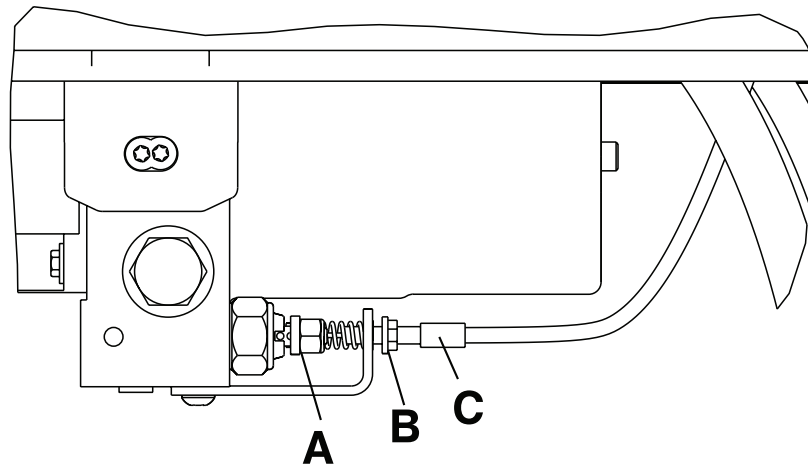

Figure 8 – Manual release cable
2. Make sure that the manual release cable is intact (A) (Figure 8).
3. Using a 10 mm combination wrench, loosen the cable lock nut (B) (Figure 8).
4. Using an 8 mm combination wrench, adjust the tension on the manual release cable so it just starts to touch the manual release dual pull bracket (C) (Figure 8).